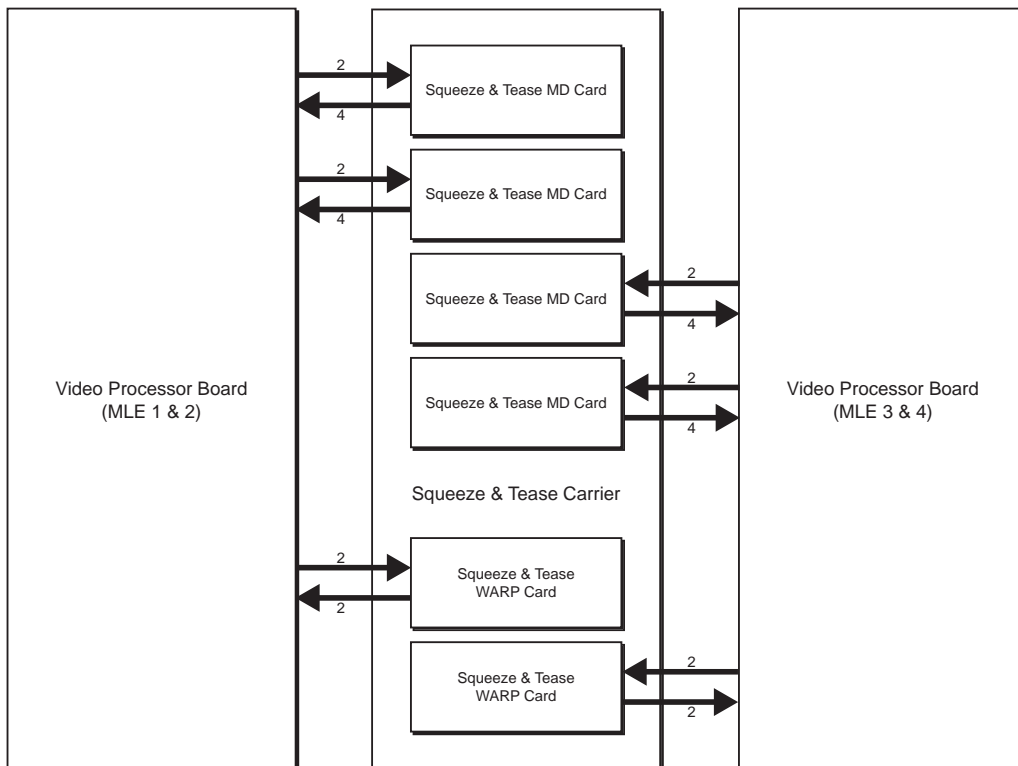

Figure 2.26 Video flow to and from a shared Squeeze & Tease Carrier
- **Slots 2 - 4** — The **Squeeze & Tease Carrier Board** in **Slot 3** of the QMD frame supports the **Video Processor Boards** in **Slot 2** and **Slot 4**. In this configuration, the **8** Squeeze & Tease DVE channel resources, and **2** Squeeze & Tease WARP generators, provided by the **Squeeze & Tease Carrier Board** are split across the two **Video Processor Boards**. This provides a total of **4** Squeeze & Tease DVE channel resources and **1** Squeeze & Tease WARP generator to **MLE 5** and **MLE 6**, supported by the **Video Processor Board** in **Slot 4**, and **4** Squeeze & Tease DVE channel resources and **1** Squeeze & Tease WARP generator to **MLE 7** and **MLE 8**, supported by the **Video Processor Board** in **Slot 2** (**Figure 2.26**).
The **Squeeze & Tease Carrier Board** in **Slot 2** of the QMD frame supports the **Video Processor Boards** in **Slot 1** and **Slot 3**. In this configuration, the **8** Squeeze & Tease DVE channel resources, and **2** Squeeze & Tease WARP generators, provided by the **Squeeze & Tease Carrier Board** are split across the two **Video Processor Boards**. This provides a total of **4** Squeeze & Tease DVE channel resources and **1** Squeeze & Tease WARP generator to **MLE 1** and **MLE 2**, supported by the **Video Processor Board** in **Slot 1**, and **4** Squeeze & Tease DVE channel resources and **1** Squeeze & Tease WARP generator to **MLE 3** and **MLE 4**, supported by the **Video Processor Board** in **Slot 3** (**Figure 2.26**).